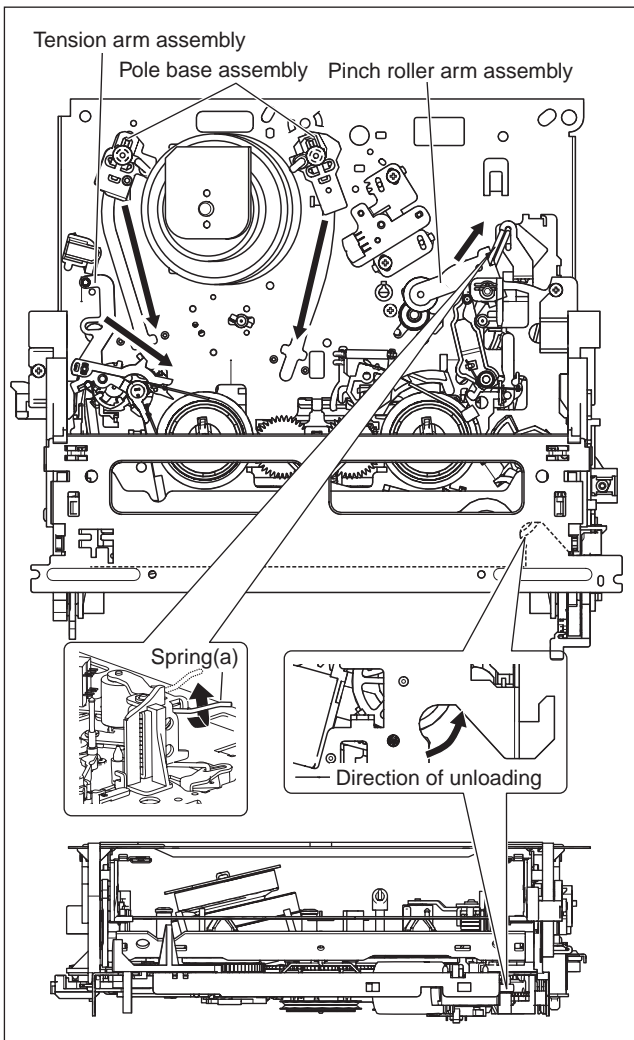

Fig.2-1b
- (3) Unload the pole base assembly by manually turning the gear of the loading motor until the pole base assembly is hidden behind the cassette lid. In doing so, hold the tape by the hand to keep the slack away from any grease. (See Fig.2-1b)